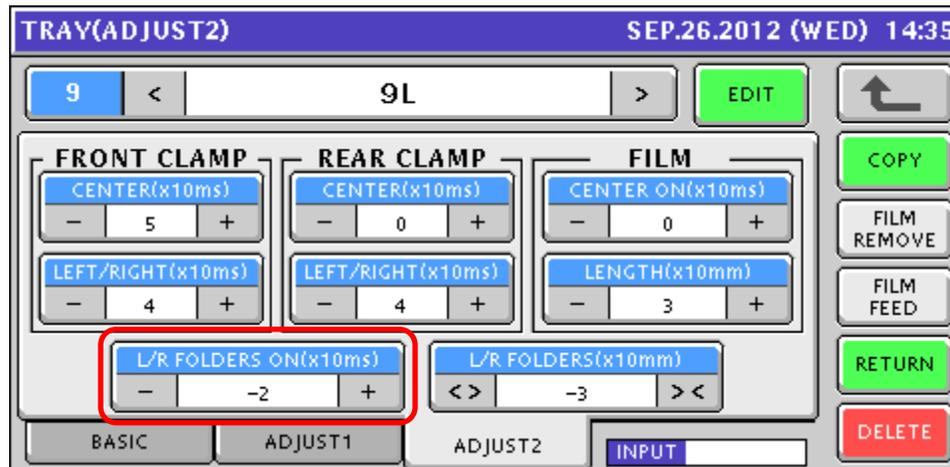

Figure 7.4.3. Tray Wrapping Advanced Adjust Settings
- m. The **ADJUST2** tab provides access to two additional settings. See Figure 7.4.3